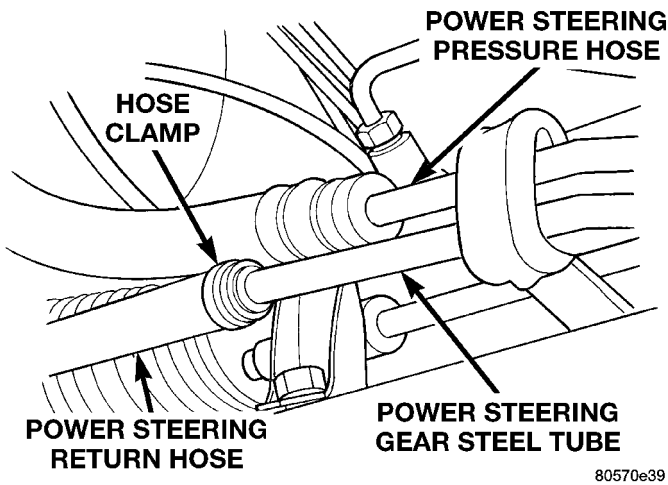

Fig. 15 Power Steering Return Hose At Steering Gear
(1) Raise vehicle.
(2) Remove hose clamp, attaching return hose to steel tube at power steering gear (Fig. 15). Let power
- (5) Install power steering return hose on steel tube at power steering gear (Fig. 15). Install hose clamp on power steering return hose at power steering gear (Fig. 15). **Be sure hose clamp is installed on return hose past upset bead on steel tube at power gear.**